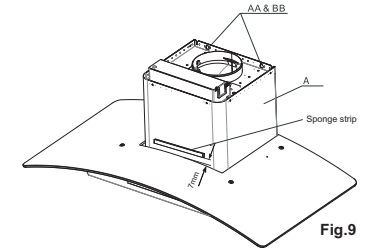

Fig.9
- Hook the hood body (A) onto the screws (AA and BB) mounted onto the wall and securely tighten the screws (AA and BB) to secure the hood body (A) on the wall. Peel off the backing and stick sponge strip to the front side of the fan housing as shown (Fig.9)